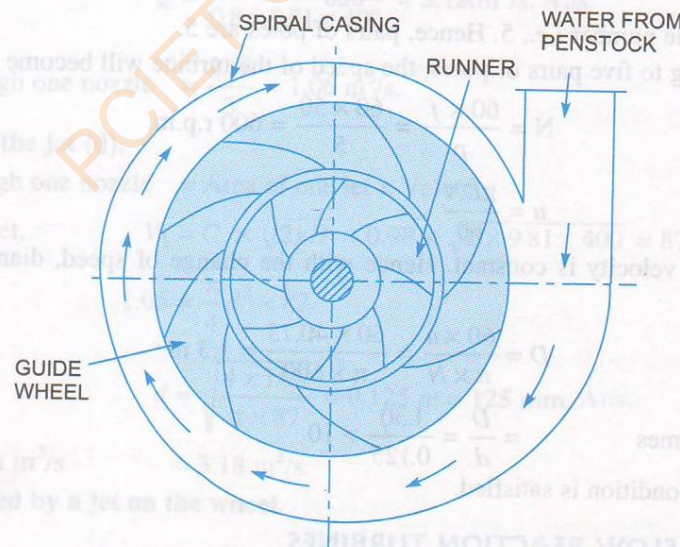

Fig. 18.10 Main parts of a radial reaction turbines.
1. Casing. As mentioned above that in case of reaction turbine, casing and runner are always full of water. The water from the penstocks enters the casing which is of spiral shape in which area of cross-section of the casing goes on decreasing gradually. The casing completely surrounds the runner of the turbine. The casing as shown in Fig. 18.10 is made of spiral shape, so that the water may enter the runner at constant velocity throughout the circumference of the runner. The casing is made of concrete, cast steel or plate steel.